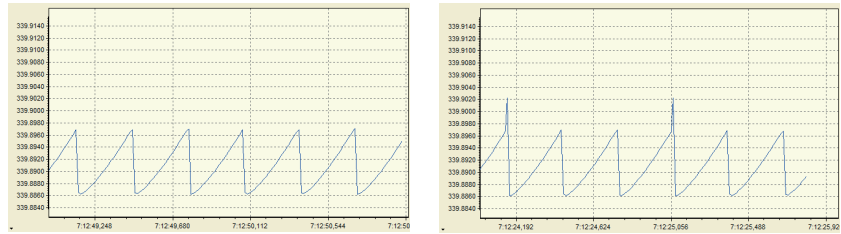

Figure C.3: Frequency of a laser scanning properly (left) and with a mode-hop at one edge (right).
The external cavity length is usually controlled by piezo actuators moving the output coupler. The cavity length changes with piezo voltage, and for a large change, the laser will usually hop to a neighbouring cavity mode. Figure C.2 is a schematic of the net gain variation with frequency, showing two adjacent modes of very similar gain. Figure C.3 is a measurement of the frequency of a laser scanning properly and with a mode-hop at one edge of the scan.
6. If the wavelength is within a few pm (GHz) of your target, increase the SPAN while observing the Fizeau wavemeter Long Term measurement (or spectroscopy scan or FP cavity transmission on an oscilloscope), as shown in fig. C.3.